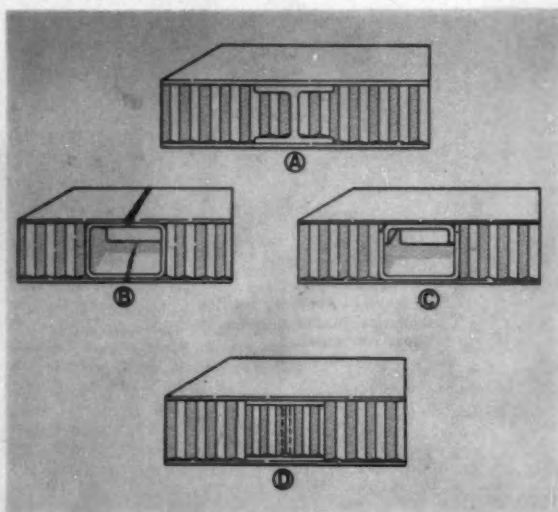
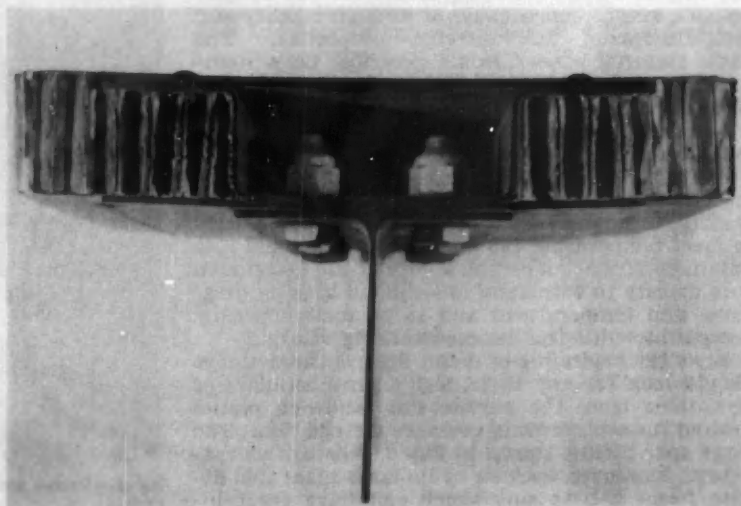

Fig. 3 — Various spar configurations from which designer can make a choice.
Fig. 5—Another possible solution to the problem of spar configuration.
4. The integral spar configuration now looms as the design keystone for the whole wing construction. While bearing in mind the close tolerances needed for brazing, the designer probably would study a number of spar cross-sections (Fig. 3) to determine which one best satisfies his requirements. The configuration shown at (C) could be his choice if the
5. The designer would probably turn to a spar cross-section similar to that at (D) of Fig. 3. Here, bending moments are carried by the doublers, with shear transmitted through the connecting dense core. This construction would appear feasible as long as provision can be made for final attachment of the spar fitting. One possible solution is shown in Fig. 4. Here, the spar caps or doublers are formed at the inboard ends to provide a receptacle for later insertion of the forged fitting. The core blanket can be attached easily to the back face of the fitting pocket before brazing, insuring shear transmission through the fitting. Note that the core blanket under the spar caps is made slightly oversize to permit the machining of accurate steps to accommodate the spar cap material. The design shown in Fig. 5 is only one solution to this design problem. Many other configurations are possible.